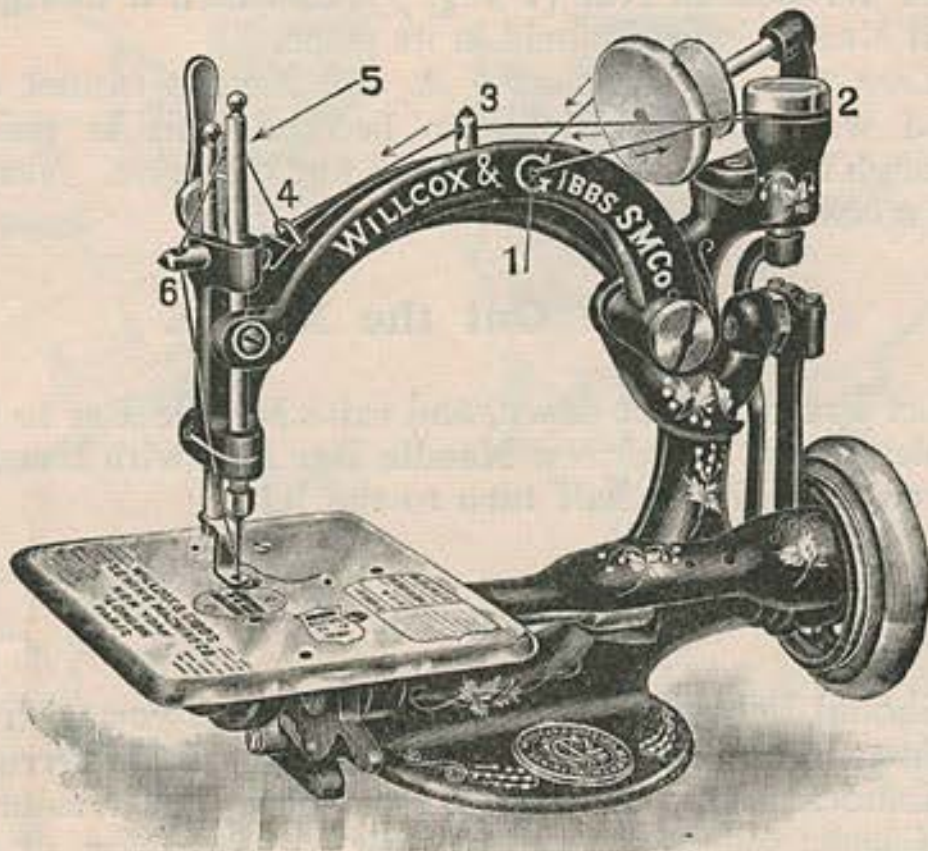

Fig. 9—Shows the Manner of Threading the Machine.
Machines are always sent from our offices properly threaded; therefore, observe Machine carefully when you receive it. The direction of thread is shown by the darts in Fig. 9.
- \*1 Thread from back toward you, through the two staples and hole in Arm known as **Pull-off** (1, Fig. 9).
2. Then carry thread between spool and **Automatic Tension**, being careful to draw thread between the washers under cap of **Automatic Tension** (2, Fig. 9).
3. Thread from right to left through Thread Pin on top of Frame (3, Fig. 9).
4. From right to left through Wire Staple (4, Fig. 9).
5. Take thread between thumb and finger of both hands, passing it between Needle Bar and Take-up, and press it from you into opening at top of Take-up (5, Fig. 9).
6. Downwards through Thread Pin (6, Fig. 9).
7. Through Needle Eye from left to right (Fig. 9).
**To Fasten End of Seam.**—Sew off end of seam *two stitches*; more than this may leave seam unlocked. Stop with Needle at its *highest point*. With left hand, catch thread between Needle and Thread Pin (6, Fig. 9), and pull some slack through the Automatic Tension.\* With right hand, draw the slack through the eye of Needle, and, grasping thread firmly, cut the thread close to the goods. Lift **Presser Foot** and then pull the goods *from you*, and end of thread will be drawn through the loop. Next, *pull end of thread, which will tighten the knot and fasten off the seam*. If you cannot pull any slack thread from the spool, it is because the **Needle Bar** is *not* at its highest point.